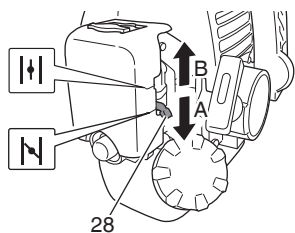

Fig. 17
- (3) Set choke lever (28) to START position (closed) (A). (Fig. 17)
- (5) When you hear the engine want to start, return choke lever to RUN position (open) (B). (Fig. 17)